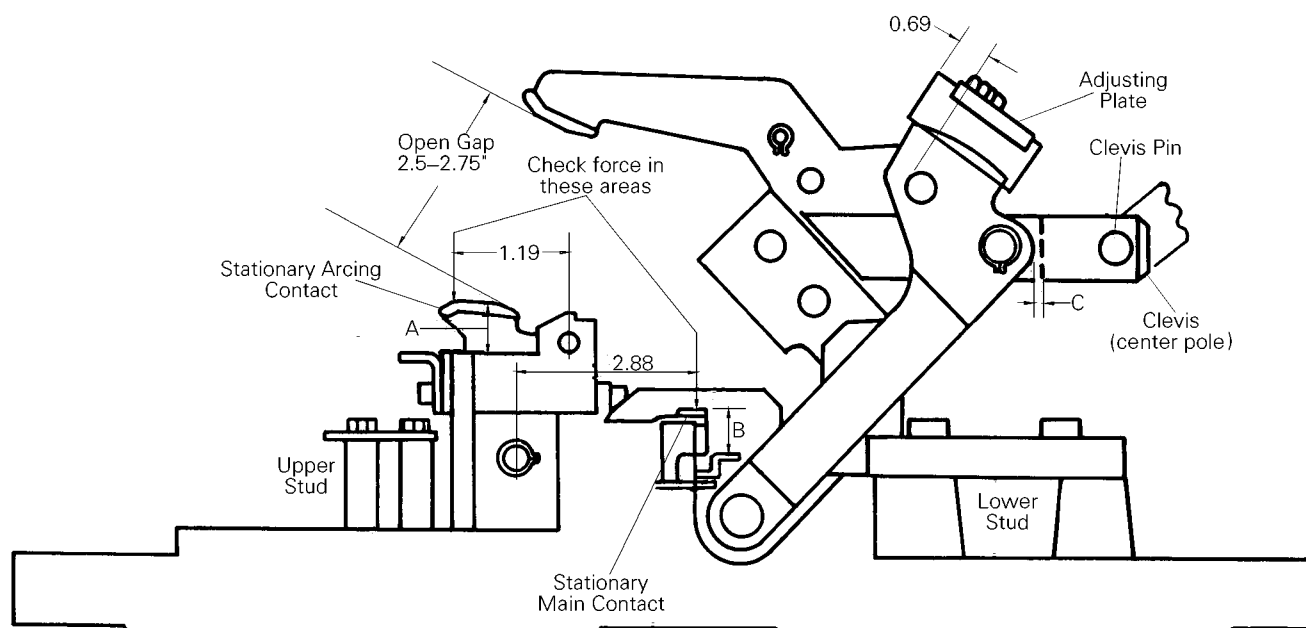

Figure 6-6. Measuring contact force and adjusting contact wipe.
5. Set the cross bar to the 0.69 dimension shown in Figure 6-6. Check that all three poles of the movable arcing contacts are touching the stationary arcing contacts to within .03 inch.
Place a push scale on the stationary arcing contact at a point 1.19 inch from the contact pivot, as illustrated in Figure 6-6, and depress the contact 0.25 inch. The load on the scale should be within the range listed in Table 6-1. If the load is not within the correct range, replace the spring under that contact assembly.
Place a push scale on the stationary contact at a point 2.88 inch from the contact pivot, as illustrated in Figure 6-6, and depress the contact to the wipe dimension listed in Table 6-1. The load on the scale should be within the range listed in Table 6-1. If the load is not within the correct range, replace the spring under that contact assembly.
Use the following procedures to measure and adjust contact wipe. Refer to Figure 6-6 for dimensions and measuring points. All contact adjustments must be performed with the opening springs disconnected, as illustrated in Figure 5-5.
If adjustment is required, increase or decrease dimension C in Figure 6-6 to increase or decrease contact wipe, respectively, on the center pole.
3. Measure the contact open gap between the stationary and movable arcing contacts, as illustrated in Figure 6-6. This distance should be between 2.5–2.75 inches.